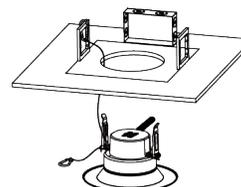

Fig. 3
- Attach carabiner safety clip to the existing fixture housing (Fig. 3).